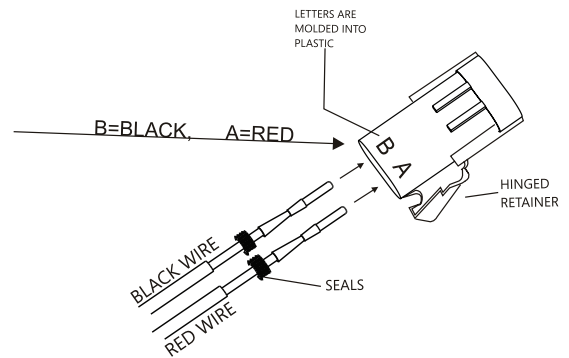

Figure 4-5
- Insert pins as shown. *See Figure 4-5*